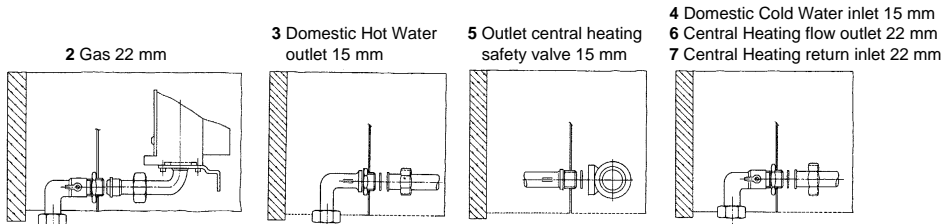

Fig. 11
- 2.6 With the exception of the connection to the pressure relief valve, make all the water and gas connections to the jig bracket valves. Fully tighten (fig. 11). Water connections can be made with compression or capillary fittings.